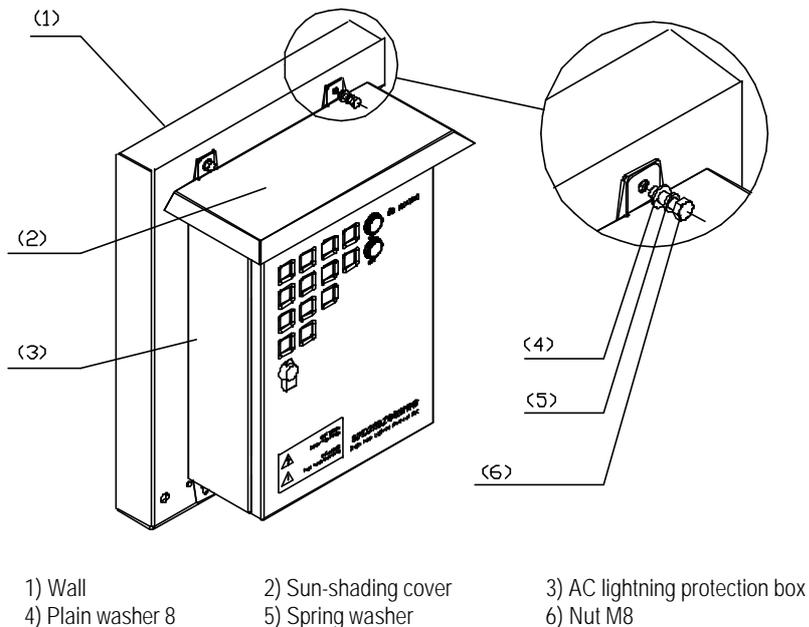

Figure 2-36 Installing sun-shading cover for AC lightning protection box
- 6) If a sun-shading cover (applicable to outdoor AC lightning protection box) is necessary, please align the installation holes of the cover with the upper two expansion bolts, then in turn put plain washers, spring washers and nuts onto the expansion bolts, and then revise the location of the box, finally, tighten the nuts to a torque of 13.4 N·m. Figure 2-36 shows the process.